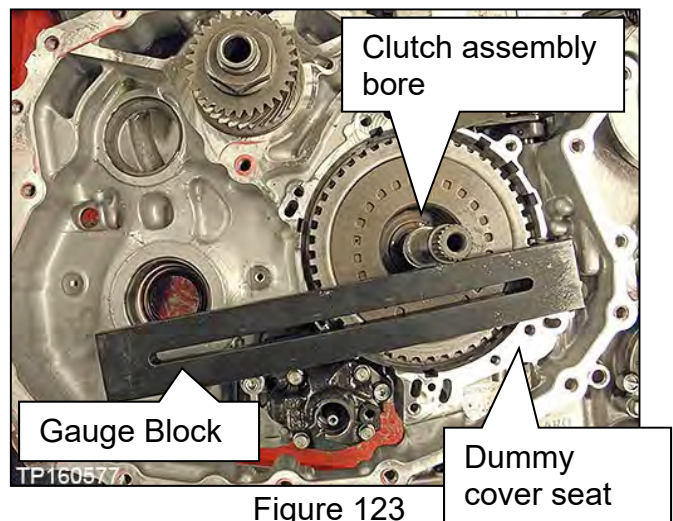

Figure 123
- a. Place the Gauge Block on the surface where the dummy cover seats and over the clutch assembly bore (Figure 123).